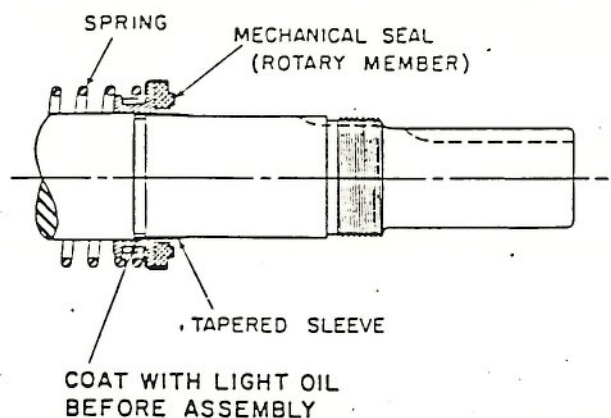

FIGURE 3
1. Installing New Seal: See Figure 3. The seal is simple to install and good performance will result if care is taken in its installation.
Place the tapered sleeve (furnished with replacement seals) on the shaft as far as it will go. Thin end must be toward end of shaft. See Figure 3. Coat the inside of the rotary member and the outside of the tapered sleeve with light oil. Be sure the shaft is free of nicks and burrs. Place the spring and rotary member on the shaft, spring first, over the sleeve and against the hub of the rotor. *Remove the tapered sleeve.*